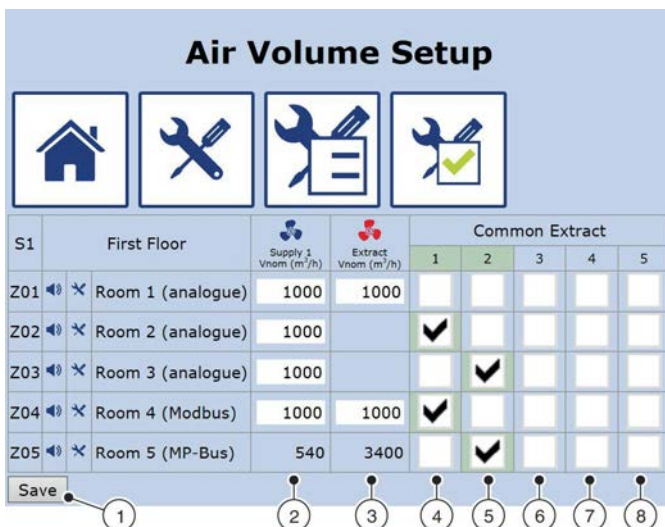

Fig. 35: Air volume setup (volume flow rate setup)
The 'Air Volume Setup' screen (Fig. 35) allows you to set supply air and extract air volume flow rates for analogue zone modules. You can also assign several zone modules to one extract air controller. If zone modules do not have individual, dedicated extract air controllers you can assign them to the extract air controllers of other zones.
- ⇒ The 'Air Volumen Setup' screen (Fig. 35) displays.
5. ▶ Enter the supply air and extract air flow rates into the entry fields (Fig. 35 /2+3).
6. ▶ Enter the extract air controllers to be shared by several zone modules into the appropriate columns (Fig. 35 /4 – 8).